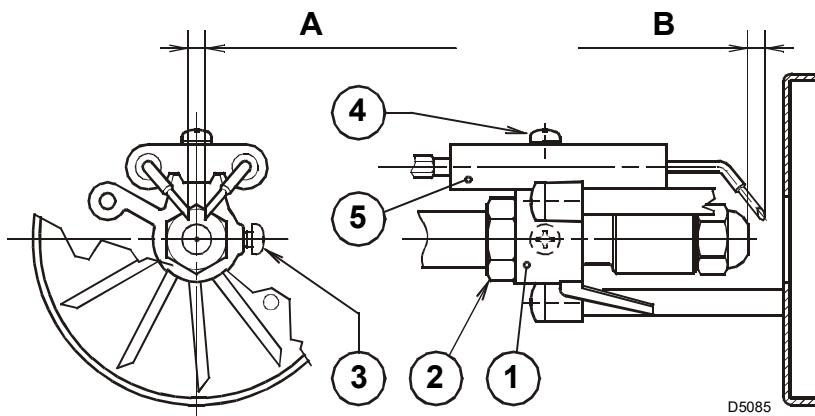

Fig. 11
These dimensions Fig. 11 must be respected.
- rest the diffuser disc-holder assembly 1)(Fig. 11) on the nozzle-holder 2)(Fig. 11) and lock it with screw 3)(Fig. 11).
- For any adjustments of the electrodes assembly 5), loosen screw 4)(Fig. 11).
- Remove the wires 4) from the electrodes, loosen the screw 3)(Fig. 11) and remove the diffuser disc-holder assembly 7) from the nozzle-holder assembly 1).